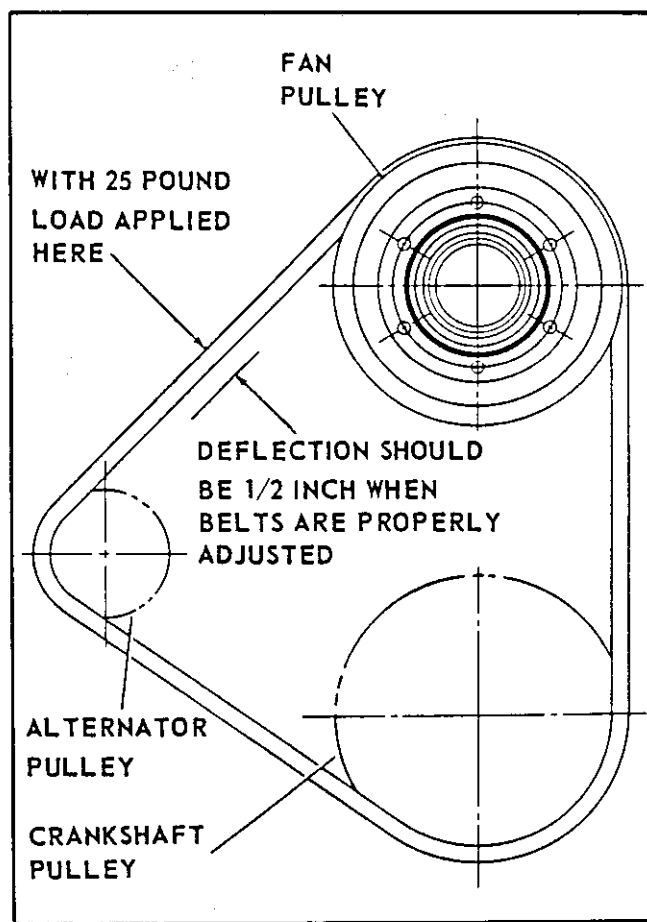

Figure 7-1. Drive belt adjustment
**7-4. DRIVE BELT TENSION ADJUSTMENT.** Refer to figure 7-1 for drive belt tension adjustment.
- g. Check and adjust drive belt tension (figure 7-1).